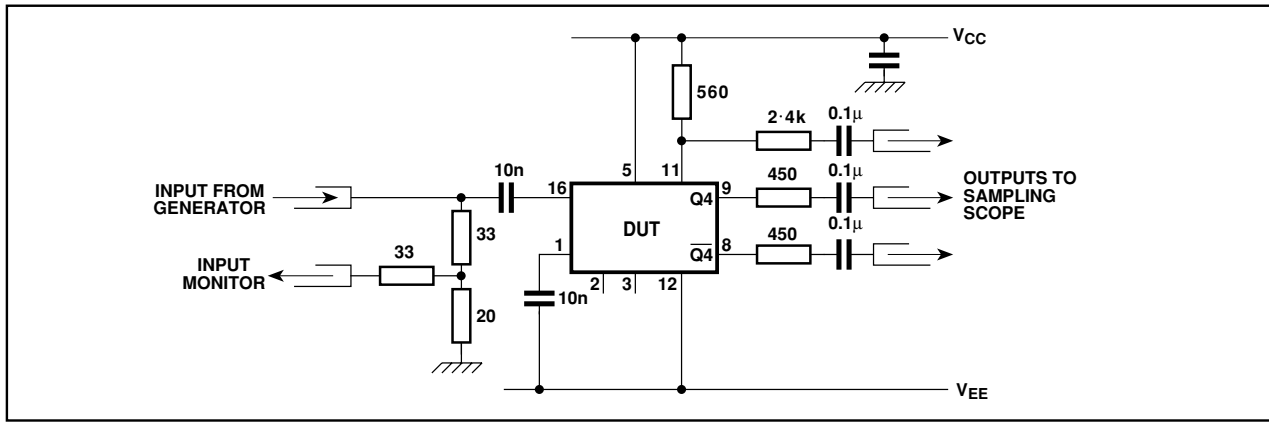

Fig. 8 Test circuit for dynamic measurements
- The test configuration for dynamic testing is shown in Fig.8
8. The rise/fall time of the open collector output waveform is directly proportional to load capacitance and load resistor value. Therefore, load capacitance should be minimised and the load resistor kept to a minimum consistent with system power requirements. In the test configuration of Fig. 8 the output rise time is approximately 10ns and the fall time